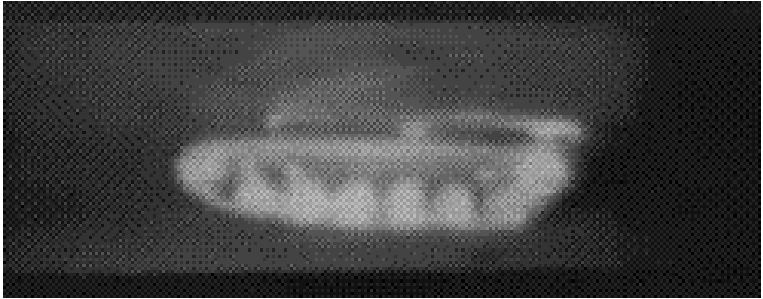

Figure 6-1-5: Tank at 300 m on Clear Night
30. Another reliable cue is the hot engine exhaust. In Figure 6-1-5 this is visible over the rear portion of the left track. Since the exhaust arrangement of a T62 and a T72 tank are similar, the same effect will be evident in the most Genforce Main Battle Tanks. Under low visibility or extended ranges the tracks and the exhaust may be all that is visible.